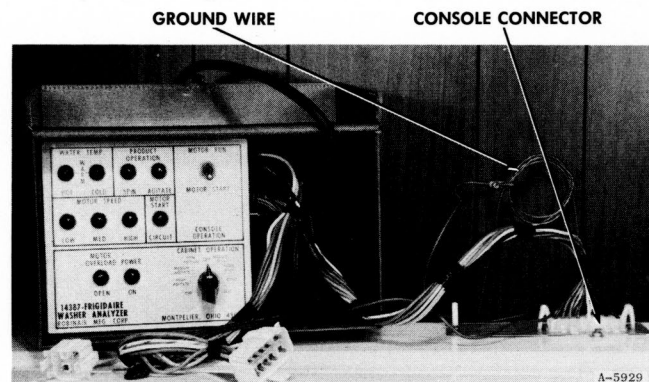

Figure 42
6. Connect the alligator clip of the analyzer grounding wire to the bare copper product grounding wire, see Figure 42.